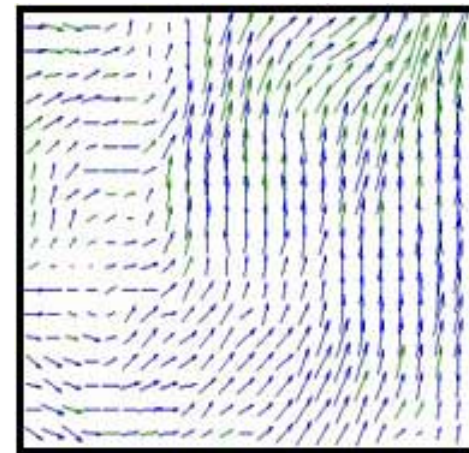

Fig.2: Velocity field sample.
- Based on the statistical correlation of image sub-regions, the local velocities are determined. The vector field is obtained by repeating this process on a grid of such sub-regions (Fig.2).